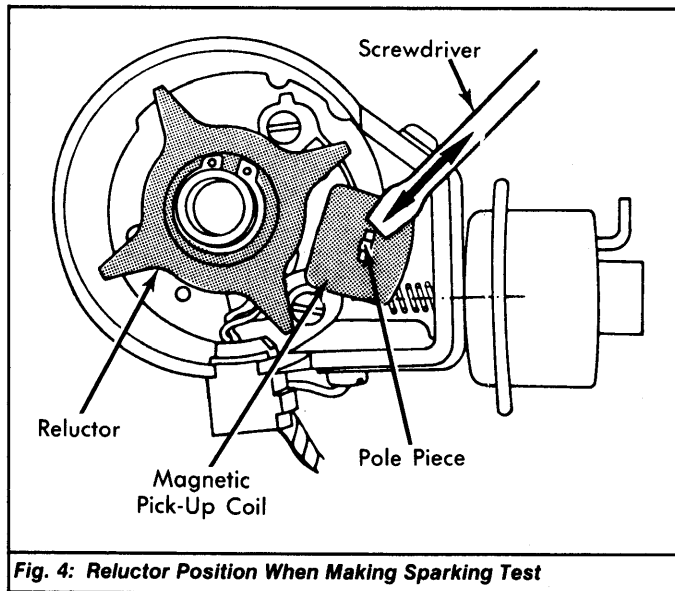

Fig. 4: Reluctor Position When Making Sparking Test
- 1) Remove distributor cap and position reluctor with one tooth on each side of pick-up coil. See Fig. 4. Remove high tension lead from distributor cap and turn ignition on.